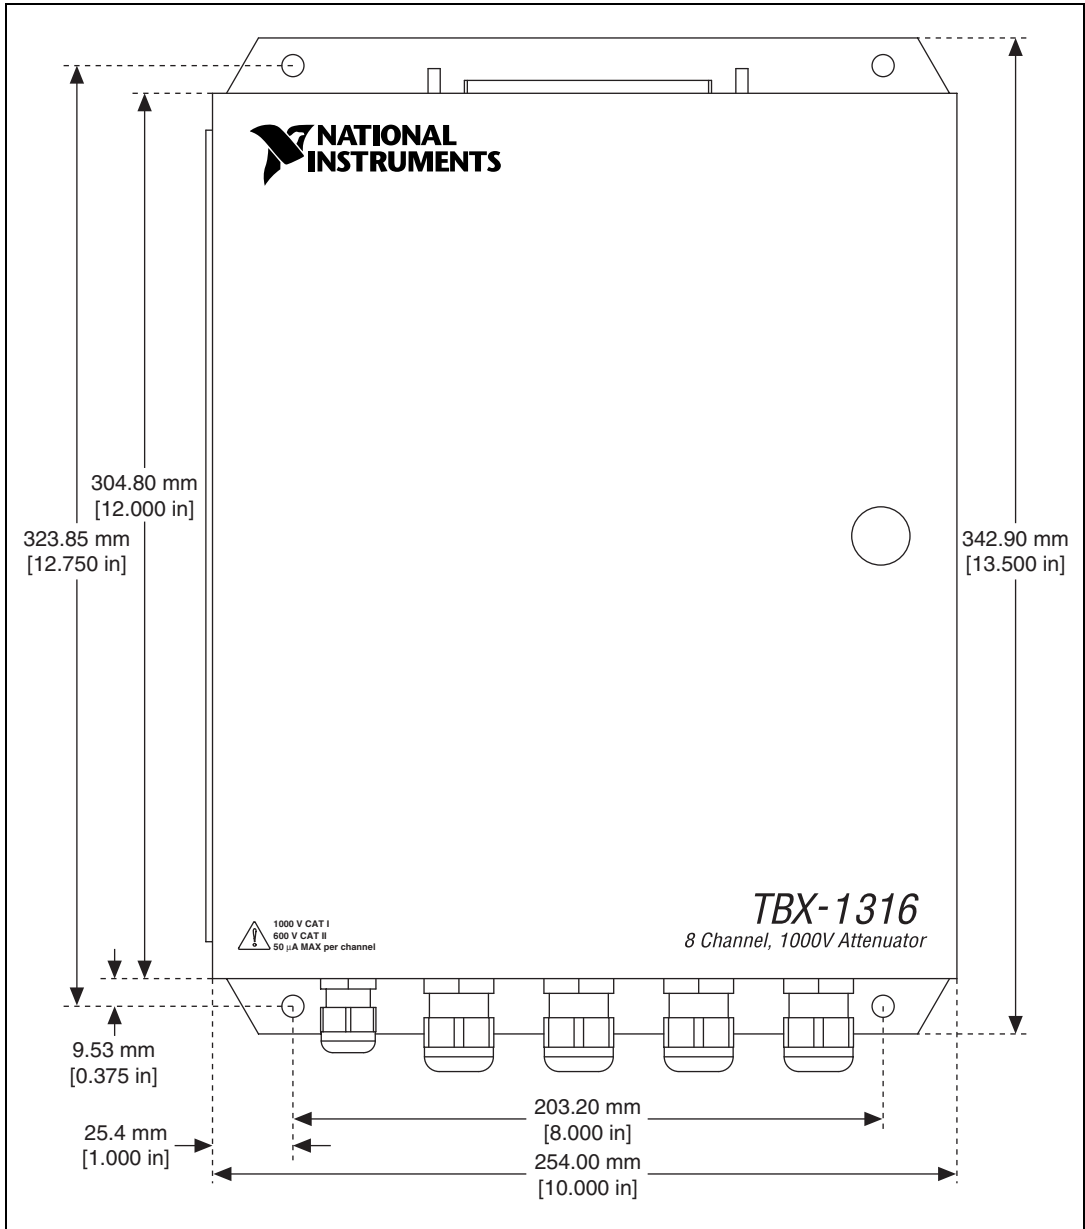

Figure 1. TBX-1316 Enclosure Mounting Hole Spacing
2. Securely mount the enclosure to the building per the local safety codes. If the enclosure is mounted on plaster board (drywall), mount the enclosure using four #14 × 1 1/2 in. wood screws installed through the four, 7.6 mm (0.3 in.) clearance mounting holes. Position the enclosure so that all four screws are driven into wooden studs. Figure 1 shows the clearance holes.